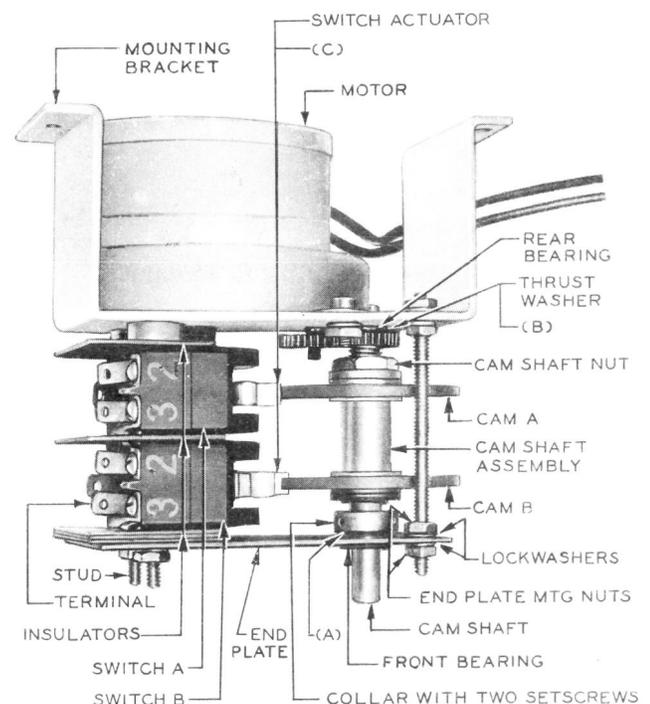

Fig. 1 — KS-14799 Timer (L1 shown)
(1) **Front Bearing:** Fig. 1(A) — Apply to camshaft between collar and end plate.
(2) **Rear Bearing:** Fig. 1(B) — Apply to thrust washer.
2.05 **Cam Position:** Fig. 1(C) — With the end play of the camshaft taken up in either direction, each switch actuator shall overlap its associated cam.